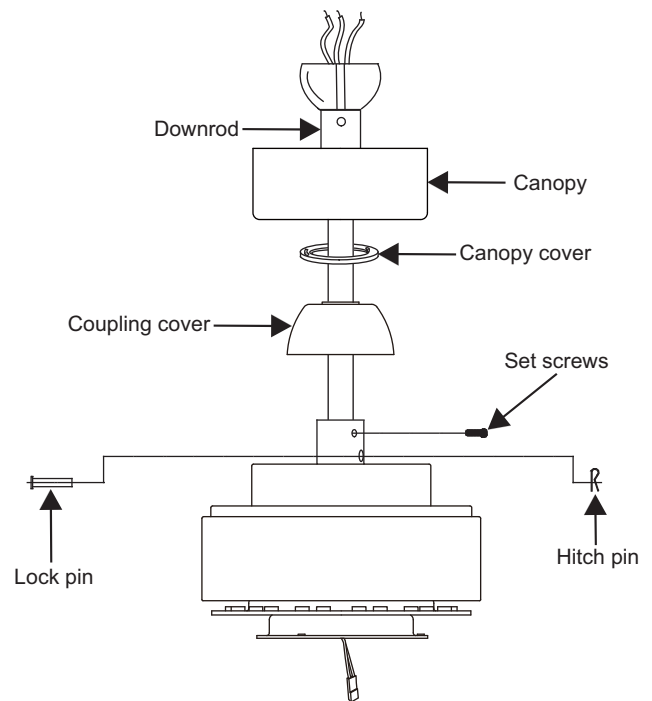

Figure 7
**Step 6.** Route wires exiting from the top of the fan motor through the collar cover, canopy cover, canopy and then through the ball / downrod. (Fig. 7)
**Step 7.** Align the holes at the bottom of the downrod with the holes in the collar on top of the motor housing (Fig.7). Carefully insert the hanger pin through the holes in the collar and downrod. Be careful not to jam the pin against the wiring inside the downrod. Insert the locking pin through the hole near the end of the hanger pin until it snaps into its locked position, as noted in the circle inset of Fig. 7.
**Step 8.** Tighten two set screws on top of the fan motor firmly. (Fig. 7)